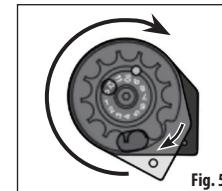
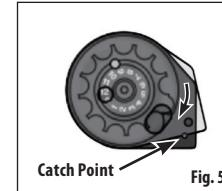

Fig. 5A
Fig. 5B
3. Lift the clear cover over the catch point and rotate in the direction of the arrows (clockwise) per Figure 5A. Turn until the cover appears as shown in Figure 5B.